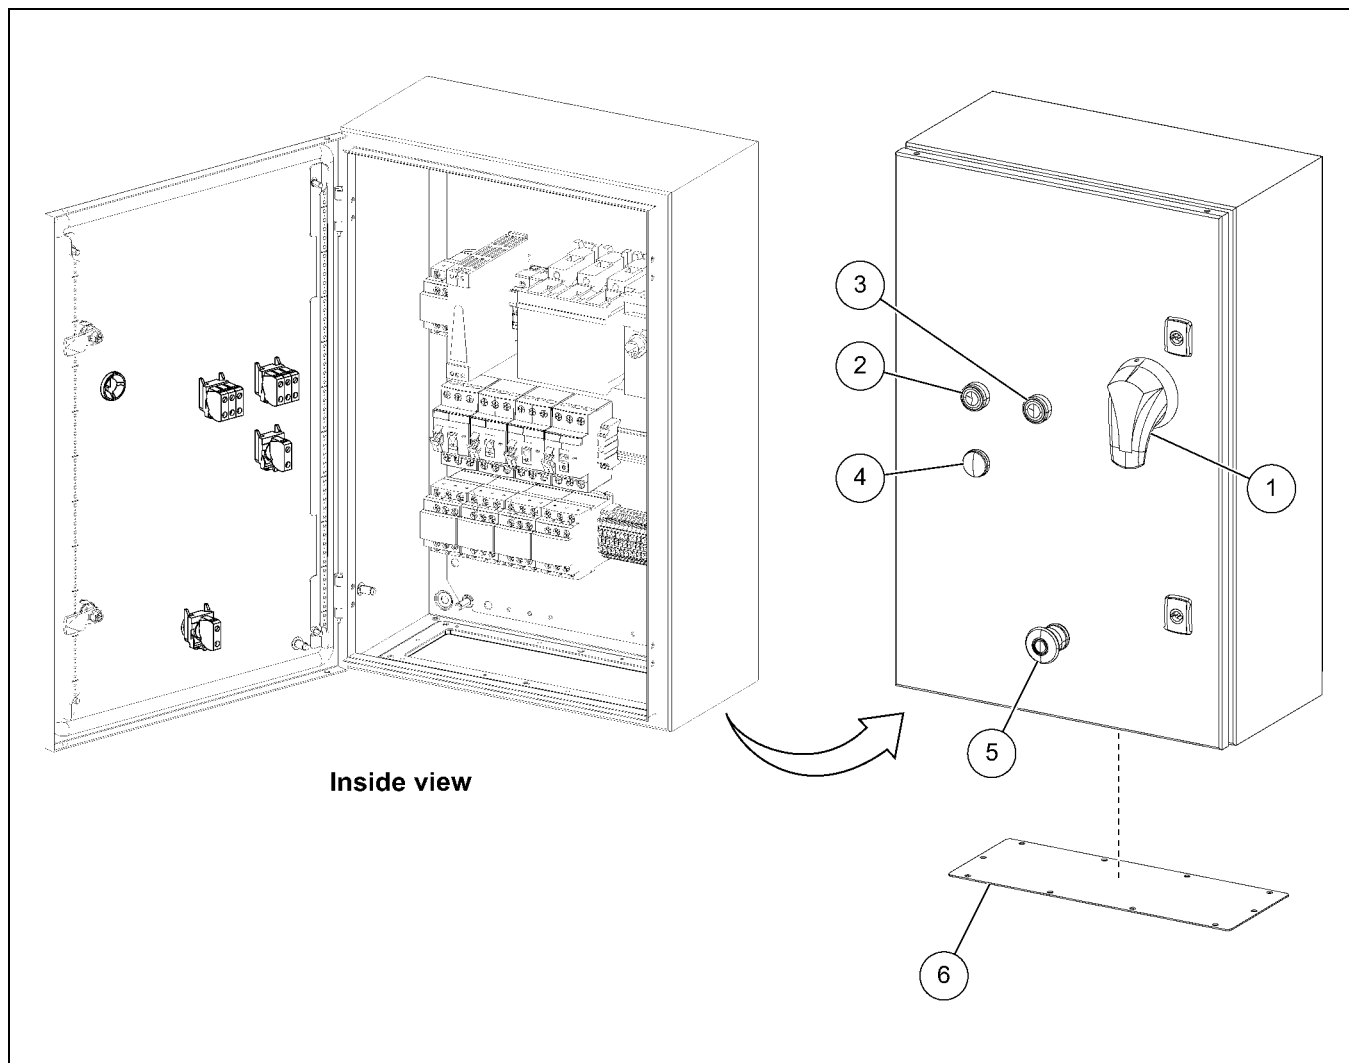

Figure 3A *Stir Sentinel Controls*
3. Install the control panel on a solid wall, partition or stand, such that the control switches are readily accessible from the floor level. (See Figure 3A.)